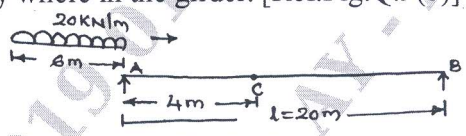

Fig.Q.9(b)
- b. A simple girder of 20m span is traversed by a moving udl of length 6m with an intensity of 20kN/m from left to right. Find the maximum bending moment and maximum positive and negative shear force at section 4m from left support also find the absolute maximum bending moment that may occur any where in the girder. [Ref.Fig.Q.9(b)] (16 Marks)